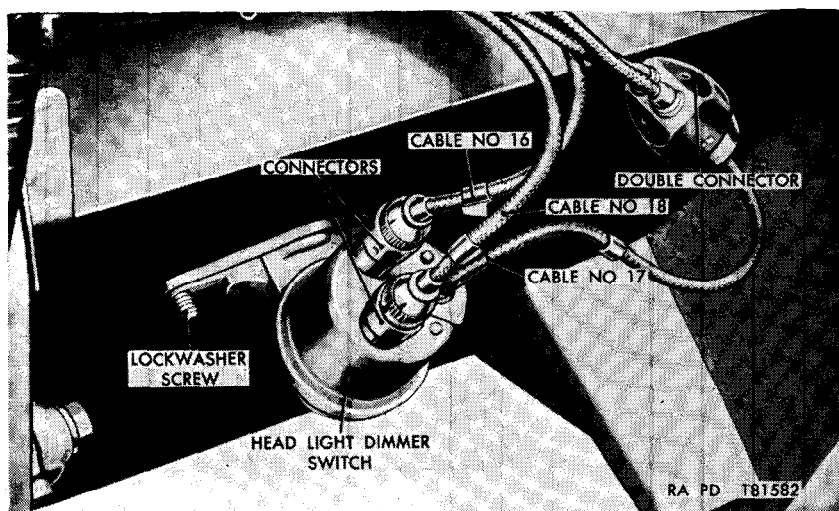

Figure 86. Headlight dimmer switch—installed.
183. Headlight Dimmer Switch (fig. 86)
a. *Removal.* Disconnect the connectors in the two cables No. 25 (fig. 86). Remove the two cap screws and lockwashers securing the horn to the horn bracket and remove horn.